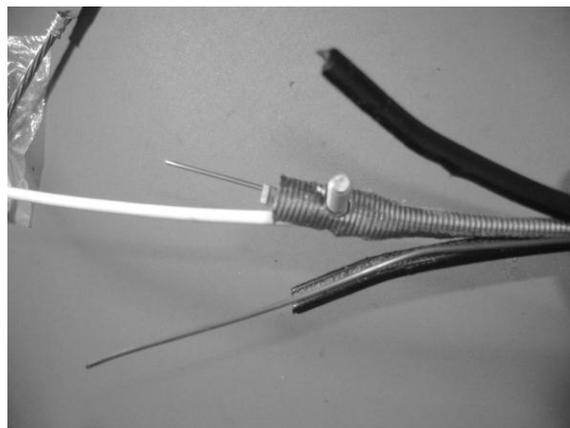

Figure 13 - Install bottom half of bond clamp.
- 3.5** Insert the bottom half of the bond clamp below the armor. Align the stud with the hole in the armor (Figure 13).